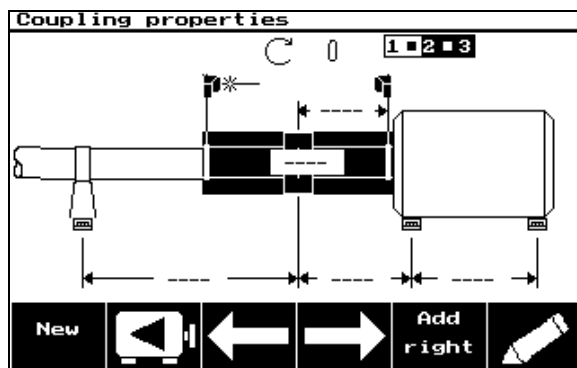

Figure A7
- 4) Now use the  key repeatedly as needed to highlight the coupling between machines 2 and 3, (see Figure A7) and press  to open the screen where you can edit the coupling properties (see Figure A8). Note that the icon  means you are editing the properties for the coupling between machines 2 and 3 (the coupling on the right-hand side of your spacer). The coupling parameter “Type” is now highlighted.